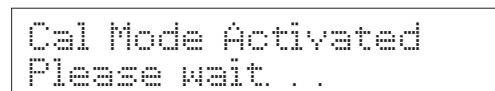
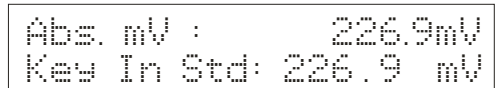

Figure 39
Figure 40
5. Press **>/CAL** key to enter the mV calibration mode. The display will read *Cal Mode Activated, Please wait...* See **Figure 39**. The meter is now in mV calibration mode. The upper display shows *Abs. mV:* and lower display shows *Key in Std:* See **Figure 40**.